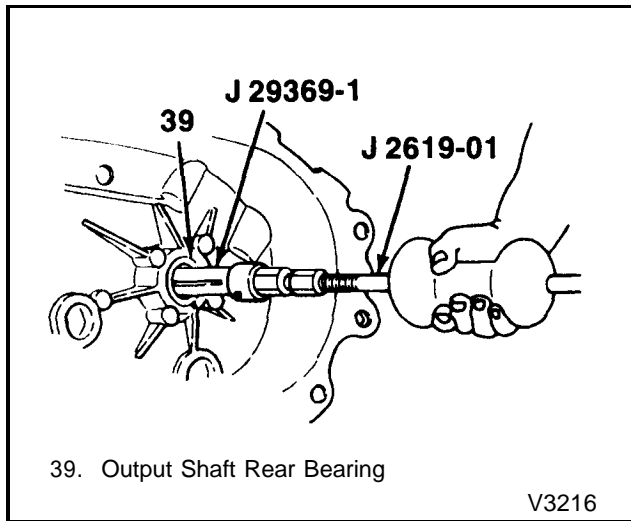

Figure 17 - Removing the Output Shaft Rear Bearing
8. Output shaft rear bearing (39) from the rear case half (10) using J 2619-01 and J 29369-1 (figure 17).